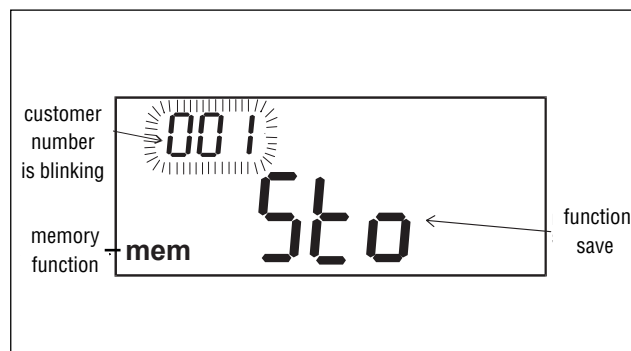

Fig. 9.3
- Press the **MEM** key of the appliance or the key **SAVE** on the **COMMANDER** once to enter the 3-digit customer number. The customer number is displayed according to Fig. 9.3.